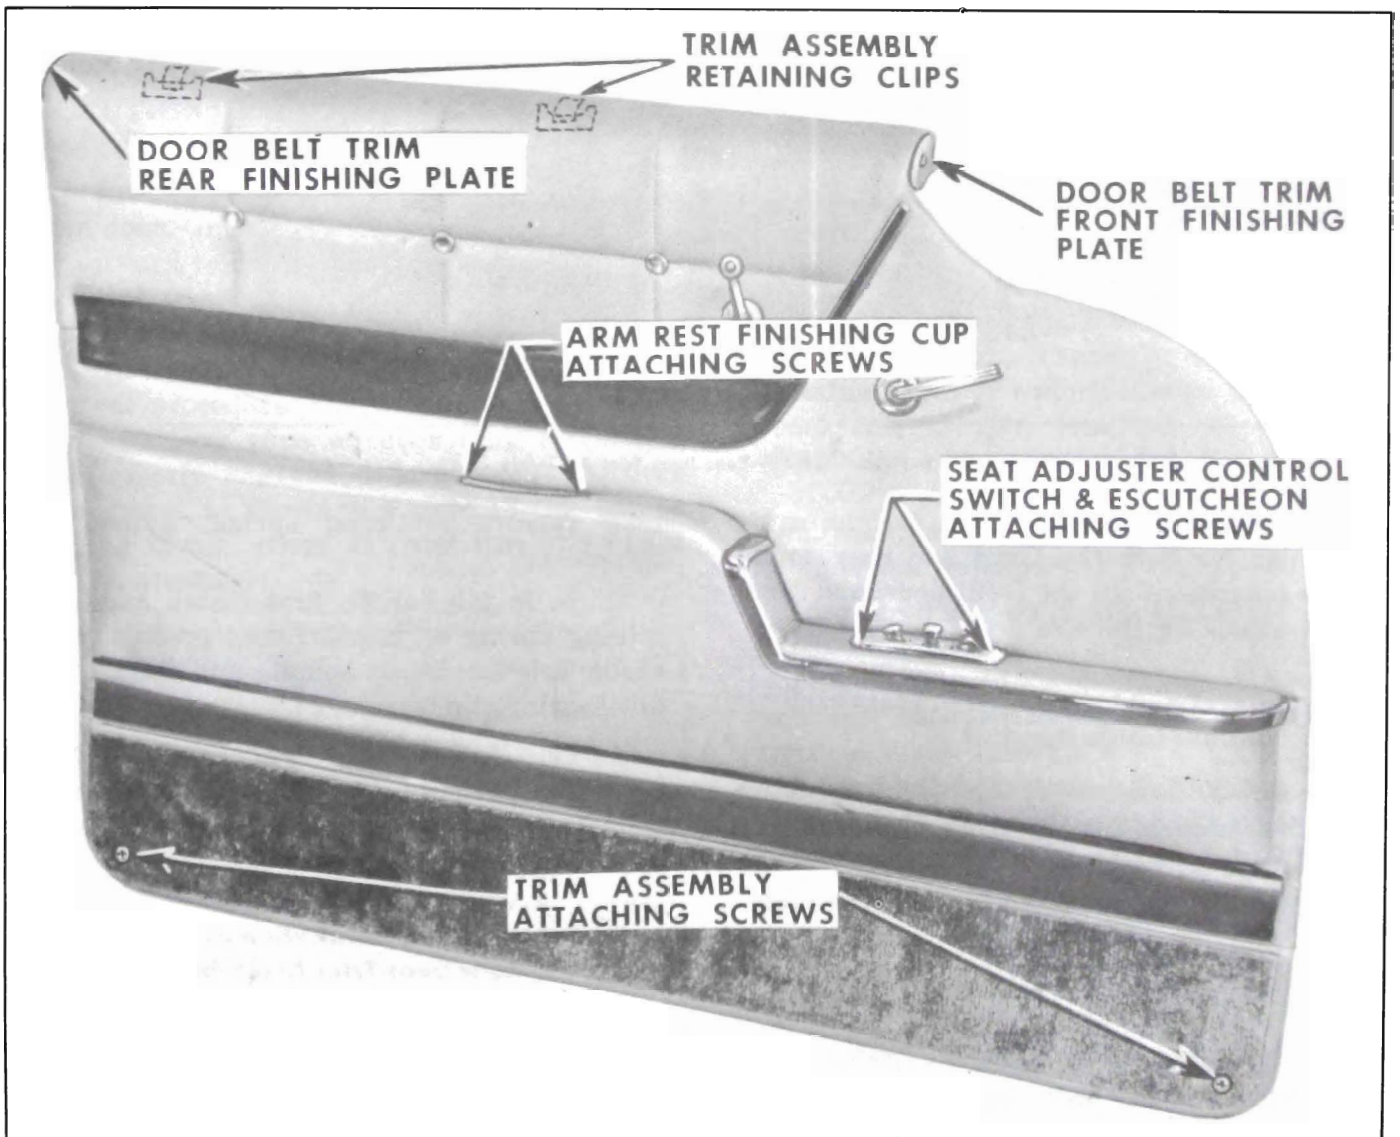

Figure 13-187—Front Door Trim Assembly
1. Remove door inside handle and escutcheons. Remove arm rest finishing cup attaching screws. (See Figures 13-187 and 13-188.)
attaching screws, detach junction block from switch and remove switch and escutcheon from door trim assembly. (See Figure 13-187.)
3. Remove door belt trim front and rear finishing plates, shown in Figures 13-187 and 13-188.
4. Remove door trim assembly attaching screws, shown in Figures 13-187 and 13-188.
7. On two-door styles remove trim assembly from door. On four-door styles lift trim assembly upward to disengage trim assembly retaining clips from supports on door inner panel, indicated in Figures 13-187 and 13-188.